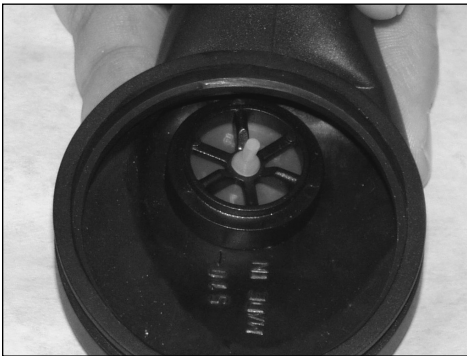

Figure 2
2. Place purge valve and body assembly into water purge deflector (not included) P/N 510-780 as shown in figure 2.